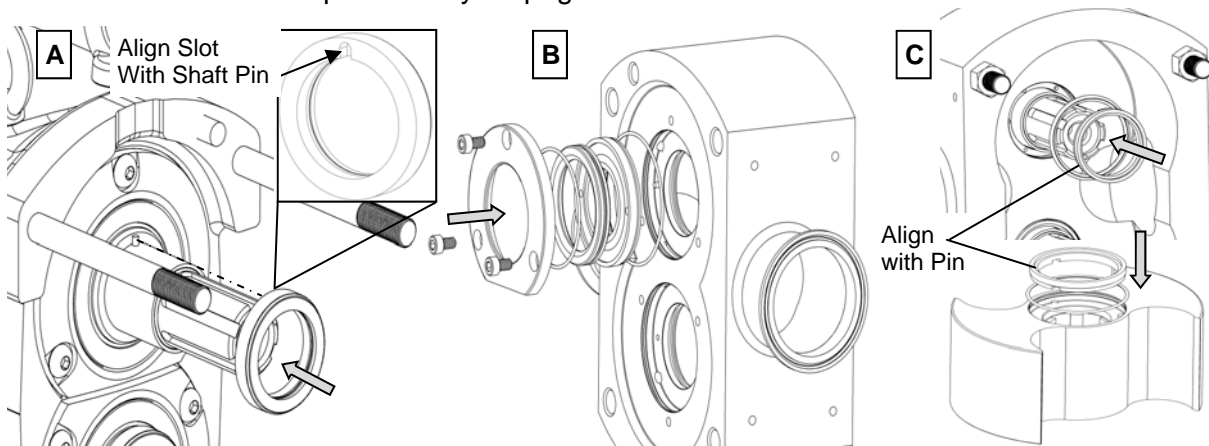

Figure 41: Mechanical Seal with Flush (Lip Seal) Assembly
*Assembly:* Apply a light film of lubricant to the o-rings and insert them into all components. Slide the ceramic flush sleeve on the shaft until it seats on the shaft shoulder. Align the slot in the sleeve to the drive pin on the shaft (Figure 41, A). Slide the mechanical seal bases and lip seals into the body and secure them with the retaining plate and bolts. Install the mechanical seals in the body and rotors being sure to align the slot on the seals with the pins in the rotor and seal base. See Pump Assembly on page 31 to continue.